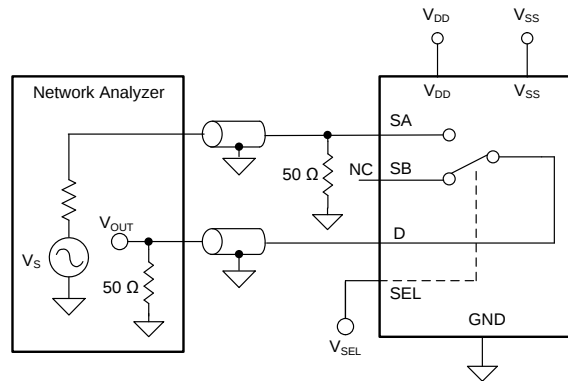

图 25. Off Isolation Measurement Setup
Off isolation is defined as the voltage at the drain pin (D) of the TMUX6119 when a $1-V_{RMS}$ signal is applied to the source pin (SA or SB) of an off-channel. 图 25 shows the setup used to measure off isolation. Use 公式 2 to compute off isolation.